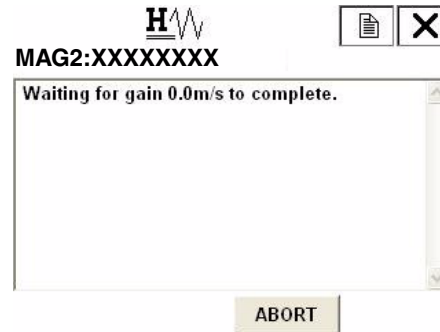

Figure 118.
6. Figure 118 then appears. Please wait until the adjustment completes.